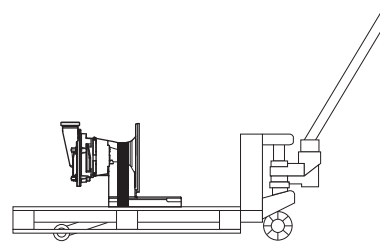

Fig. 67 Moving with pallet truck
- ▶ Ensure that the pump is adequately secured to the pallet, for example, with straps; see Fig. 67, "Moving with pallet truck," page 36.